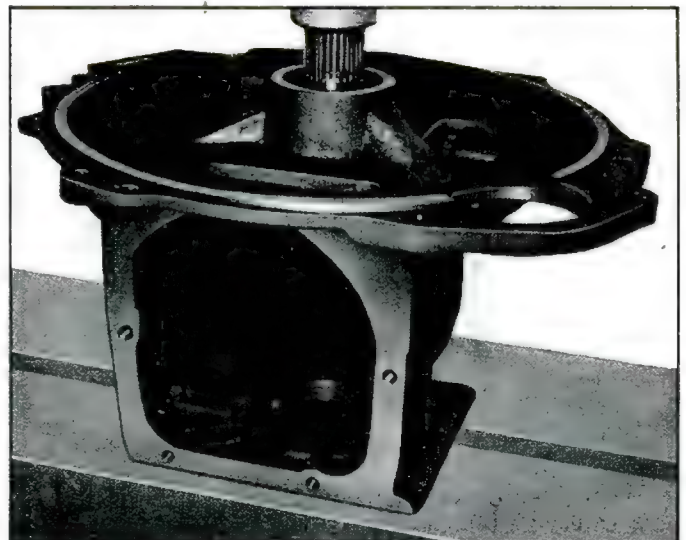

Fig. 42—Pressing Stator Shaft and Pinion Rear Bearing Race from Carrier
1. Remove stator shaft and pinion bearing cup from carrier by placing carrier in a press and pressing downward on end of stator shaft as illustrated (fig. 42). Replace stator shaft and/or bearing cup as required.